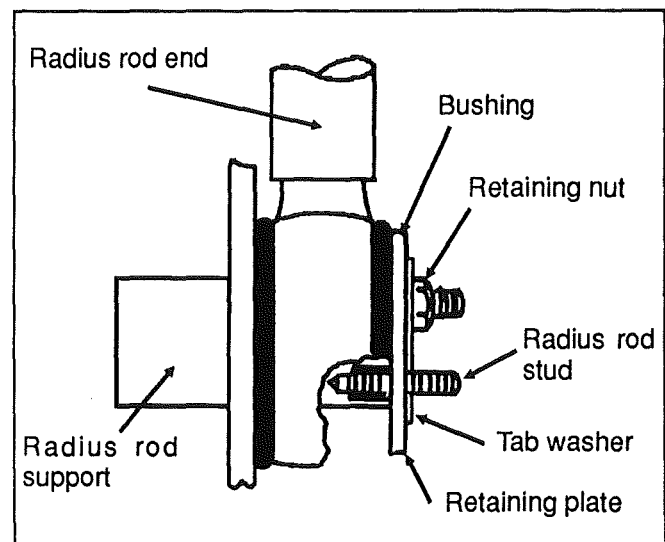

FIG. 19
1. Flatten the tab washer which secure the two retaining nuts, then unscrew the nuts at each extremity (see figure 19).